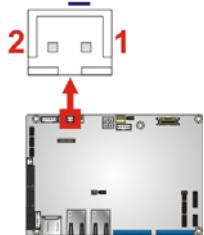

Figure 3-11: Power Button Connector Location
**CN Location:** See Figure 3-11